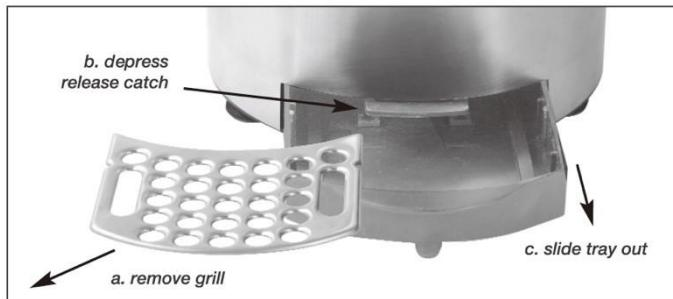

Figure 7
6) Remove the drip-tray plate and then remove the drip tray as shown in Figure 7.